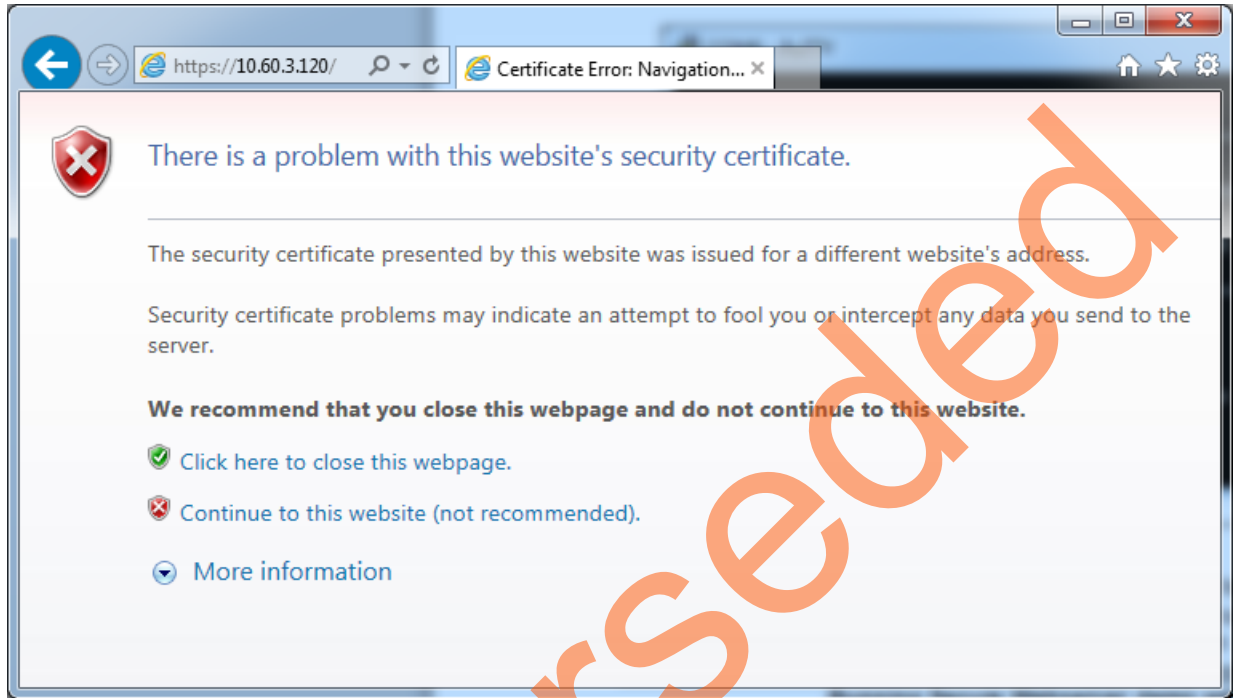

Figure 18 • Microsoft Internet Explorer showing Certificate Error Warning Message
1. Open the Microsoft Internet Explorer and type the URL (for example, <https://10.60.3.120>) in the address bar. The browser shows a warning message as shown in Figure 18.